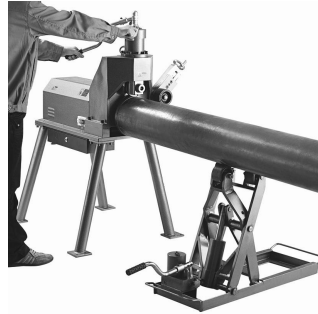
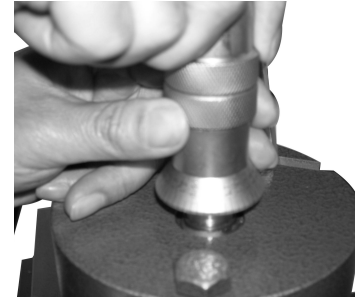
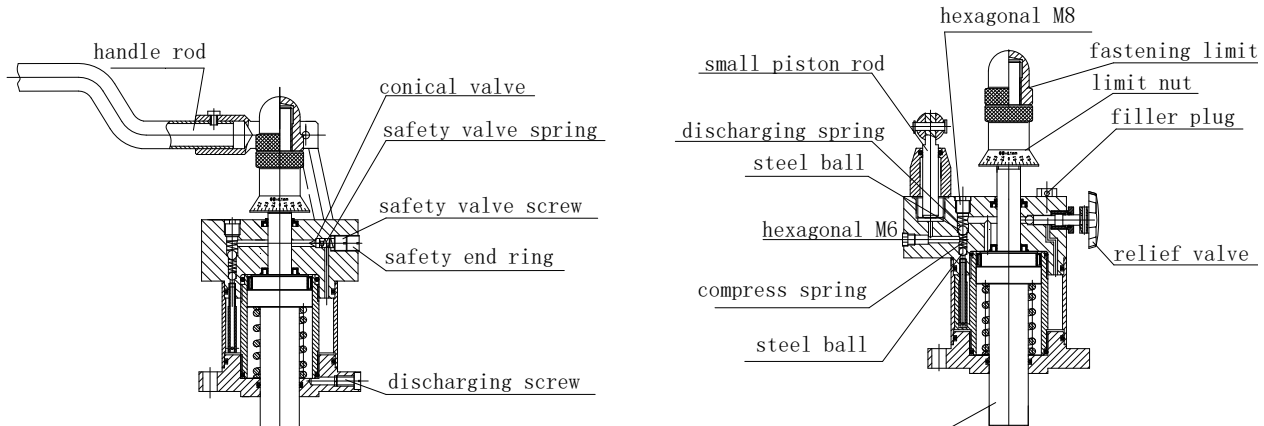

Fig.4
Fig.5
Fig.6
Before applying pressure, turn the idler pulley shelf of handle, let idler pulley touch steel pipe slowly, then fasten the fastening nut for idler pulley (**Fig.4**). Tighten the relief valve. Turn the handle at a faster speed at the beginning to form the initial channel. And then, you shall turn slowly. The steel tube shall be rotated at least one turn for each applying of pressure. Limit and depth adjustment of channel. First loosen the limit nut. Measure and cut the first channel followed by fastening for limit nut (**Fig.5**). For the following channels, it means the desired channeling depth has been attained when the force to apply to the handle increases, and you shall stop turning the handle to let the pinch roller roll at the original position for 1-2 turns before opening the relief valve (**Fig. 6**) to allow
the pinch roller leave the tube. The pinch roller holder will return to its highest position automatically. The above procedure shall occur while the machine is kept on. Remove the filler plug to add hydraulic oil. (loosen the relief valve.) **(Fig. 6).** Unscrew the discharge screw before discharging all the dirt used oil.
2. Dirt oil blocks the hole.	Replace the hydraulic oil (See Fig. 6)
3. Leakage occurs to the check valve	Remove the screws and spring. Knock the small steel balls lightly to force out the air-tight surface. (See Fig.6)
2. Leakage occurs to the check valve	Remove the screws and spring. Knock the small steel balls lightly to force out the airtight surface. (See Fig. 6)